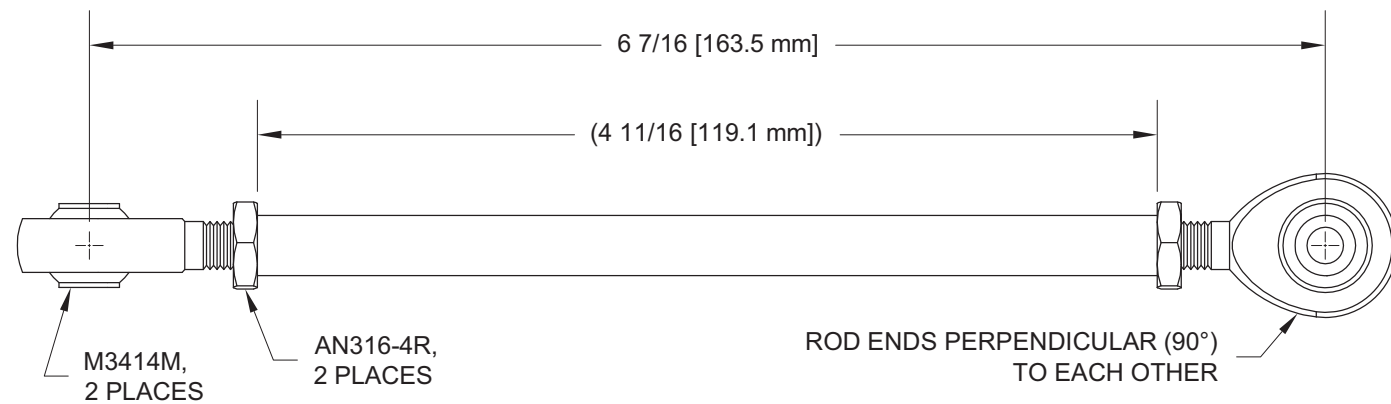

FIGURE 2: ROLL SERVO PUSHROD ASSEMBLY
Step 2: Assemble the F-1291 Roll Servo Pushrod and hardware as shown in Figure 2 to make the Roll Servo Pushrod Assembly.